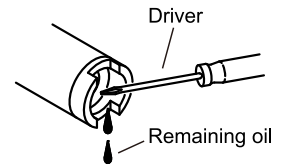

Fig. 9
4. The oil can be drained by pushing open the foot valve section inside, using a screwdriver, etc. (Fig. 9)